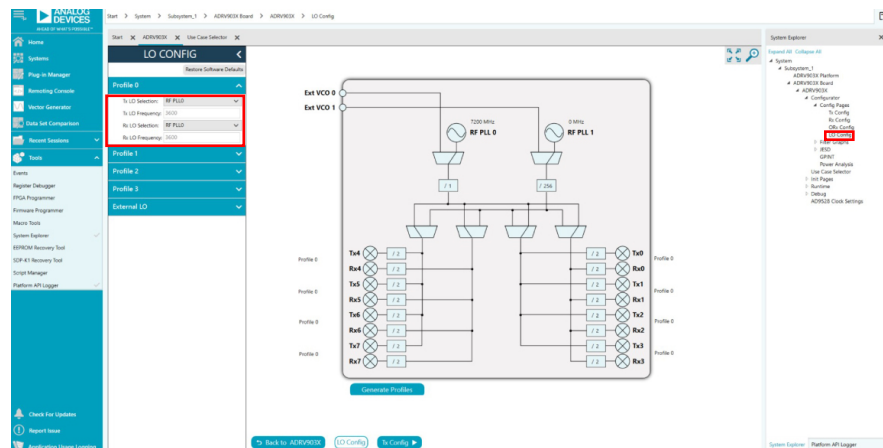

Figure 16. LO Config Page
2. Update the RF PLL frequencies under the **LO Config** are as shown in Figure 16.